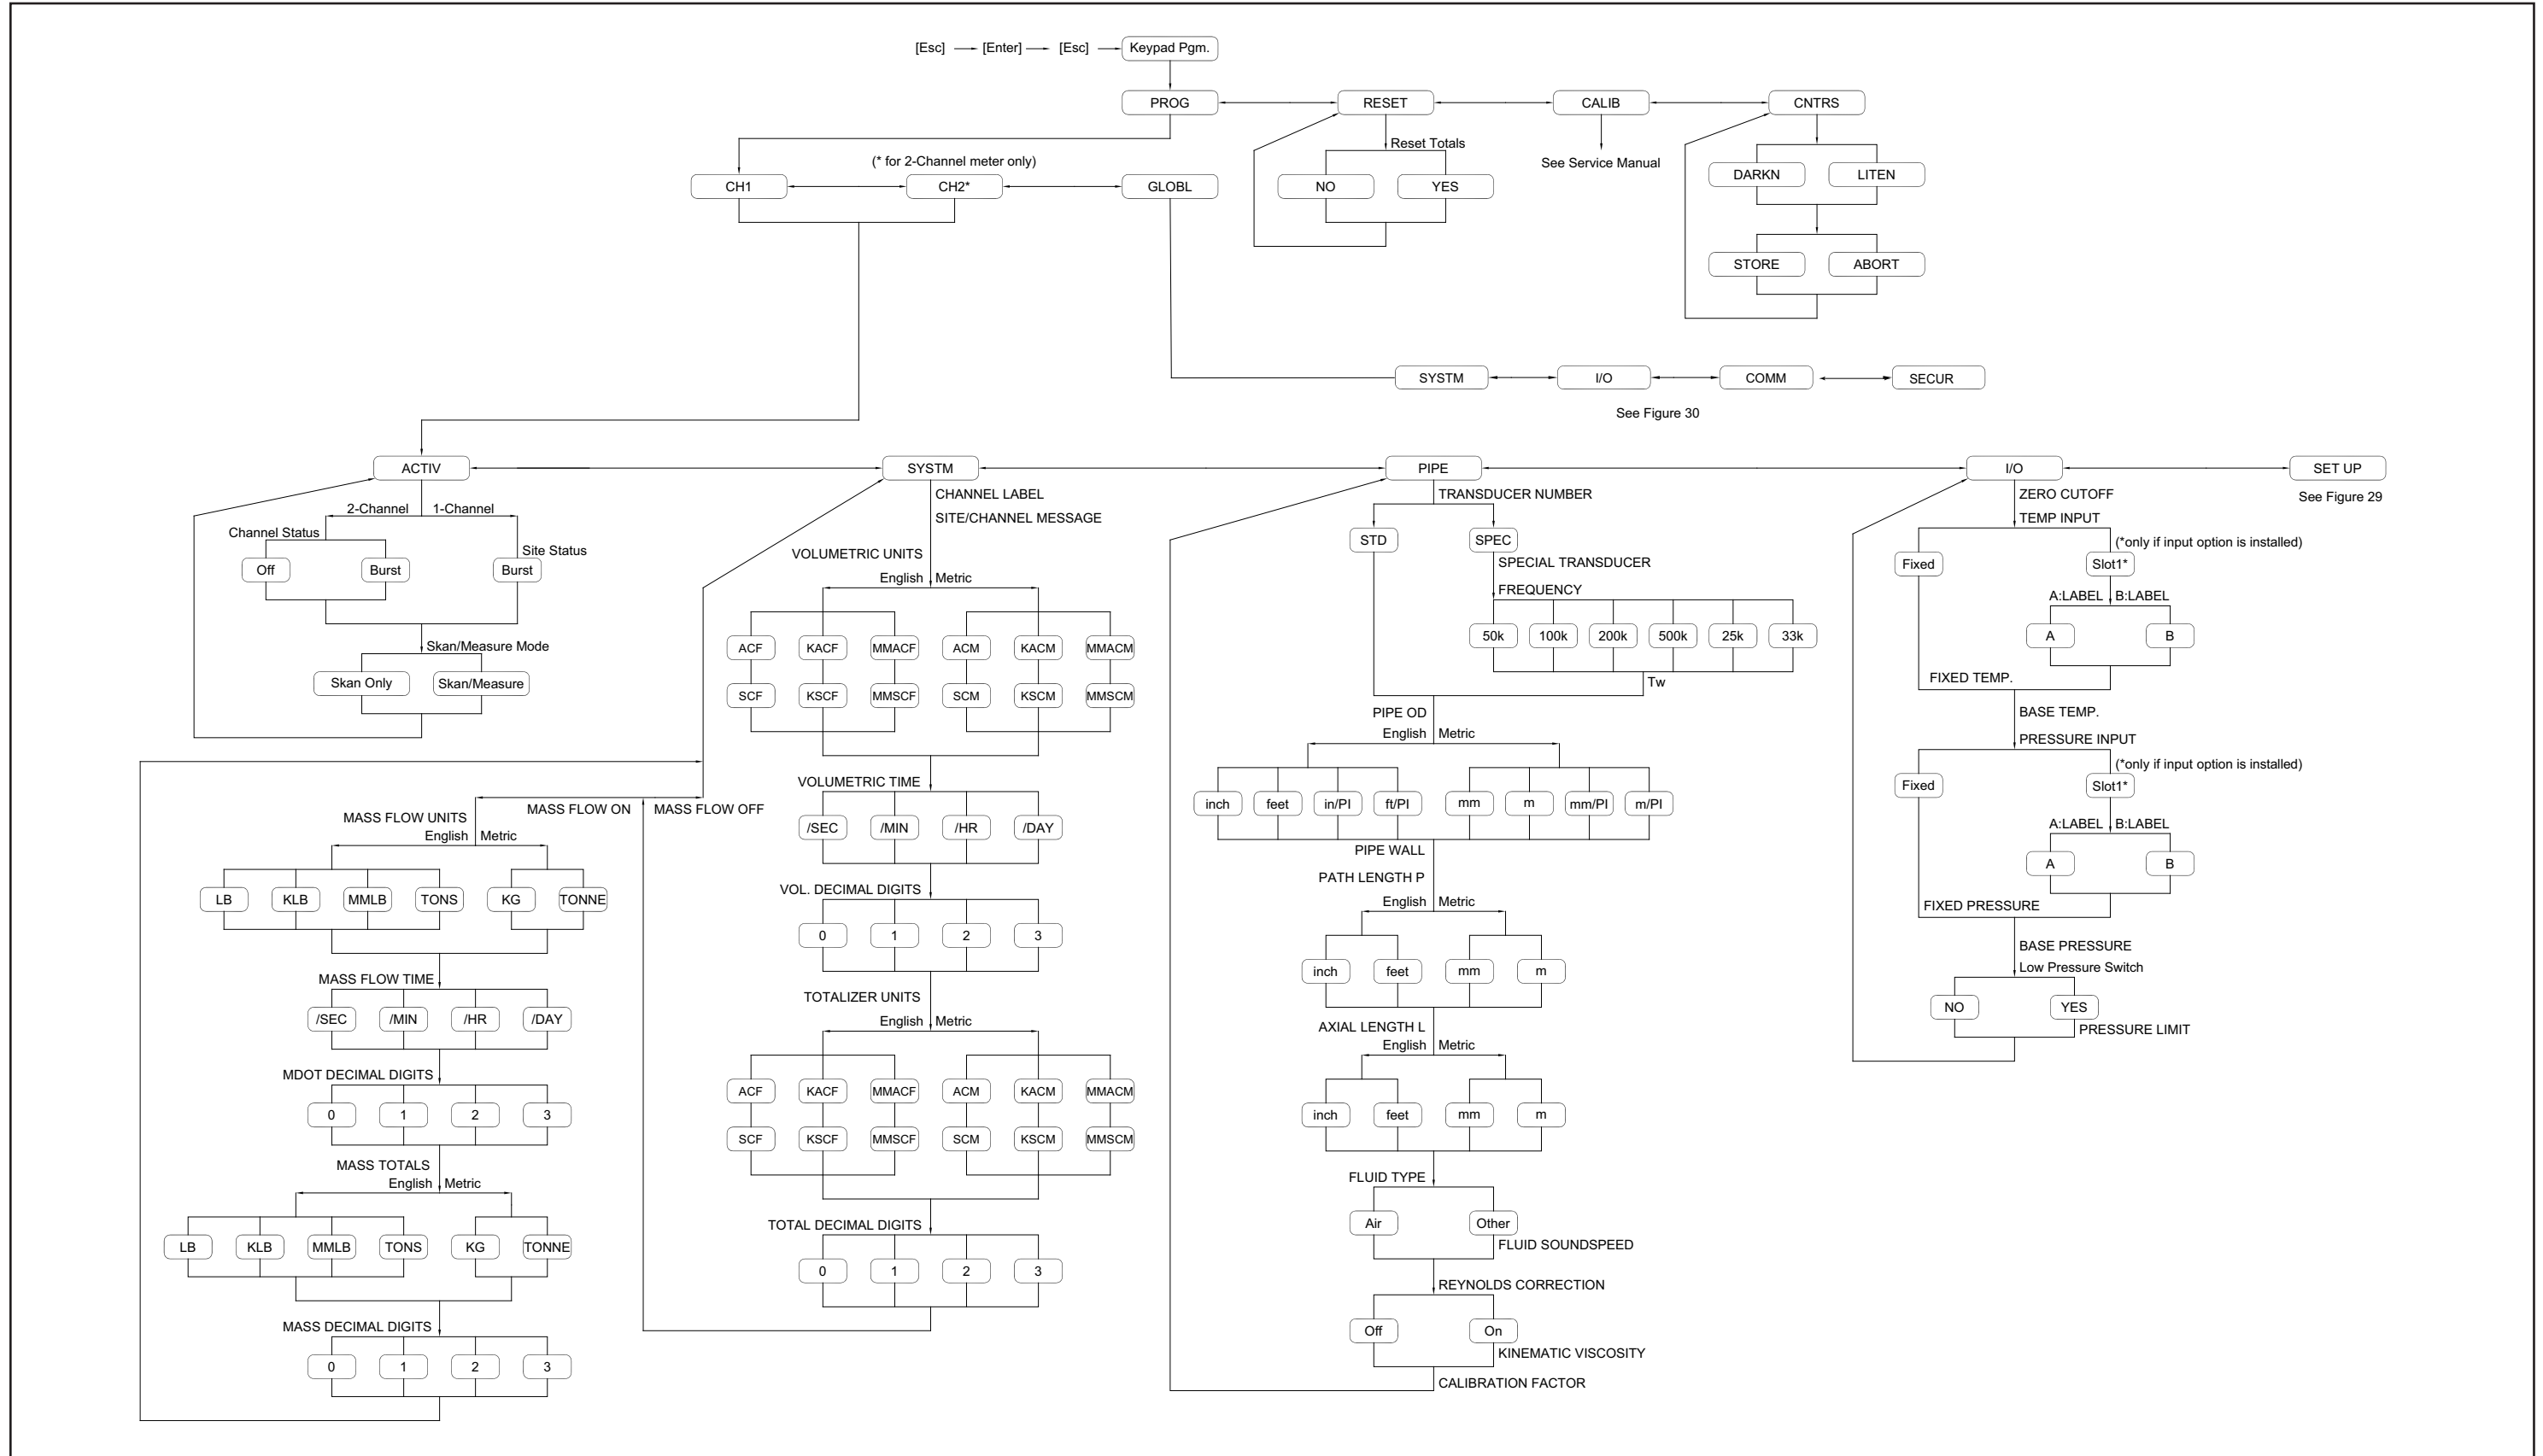

Figure 28: PROG > CHx > ACTIV, SYSTEM, PIPE & I/O Menus
- Figure 28, “PROG > CHx > ACTIV, SYSTM, PIPE & I/O Menus,” on page 73